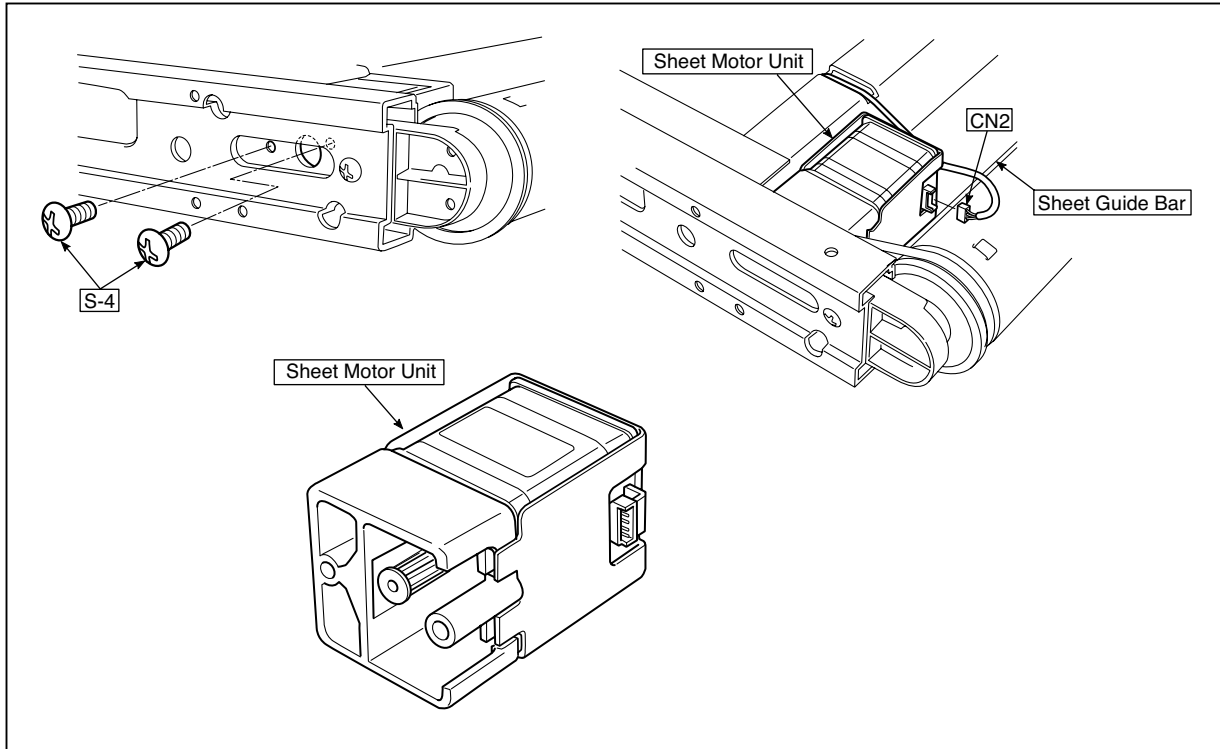

Fig.31
13) Replace the Sheet Motor Unit. (See Fig. 31)
1. Remove the "S-4" screws shown in the figure 31.